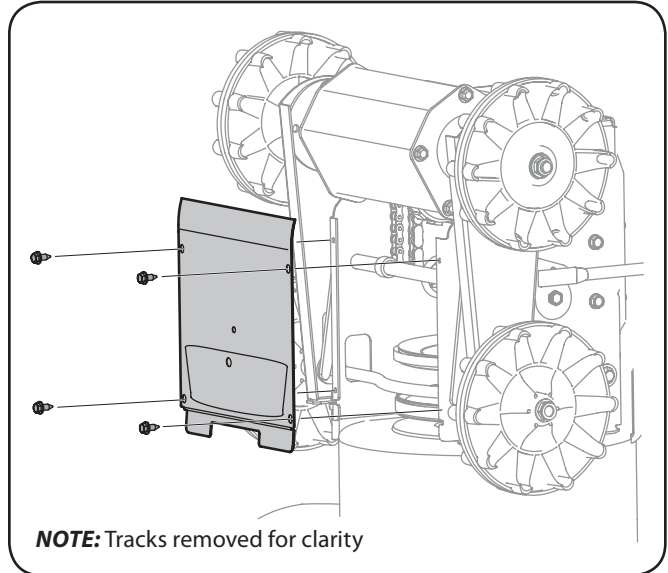

Figure 7-2
4. Remove the frame cover from the underside of the snow thrower by removing the self-tapping screws which secure it. See Fig. 7-2.
4. Remove the frame cover from the underside of the snow thrower by removing self-tapping screws which secure it. Ref. Fig. 7-2.